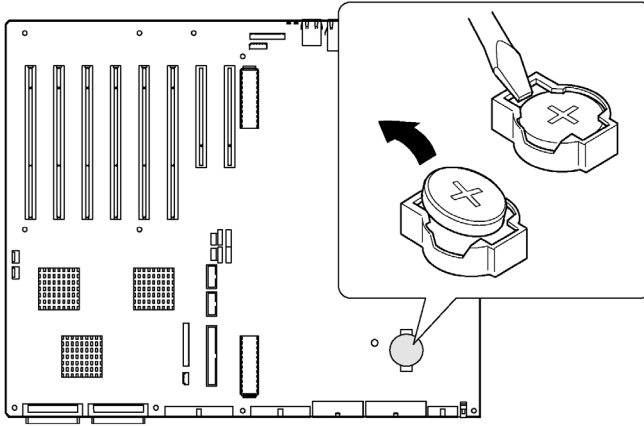

Figure 46 - Removing the battery
- 5 Slide the battery in the direction shown in Figure 46, allowing the battery to pop up.